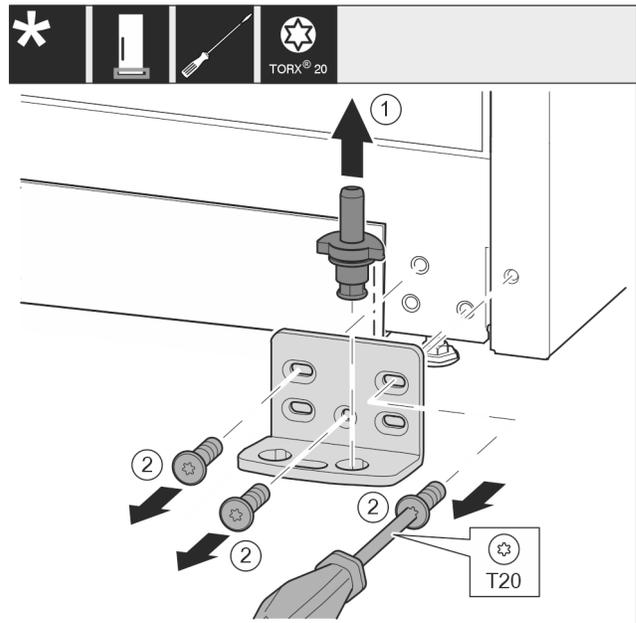

Fig. 14
- ▶ Lift the bearing pin completely upward and remove it. Fig. 14 (1)
- ▶ Remove the screws with the T20 screwdriver and take off the bearing bracket. Fig. 14 (2)